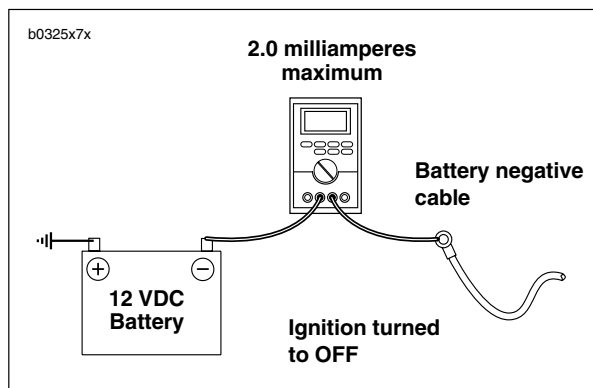

Figure 7-26. Milliampere Draw Test
1. See Figure 7-26. Connect ammeter between negative battery terminal and battery. With this arrangement, you will also pick up any regulator drain.